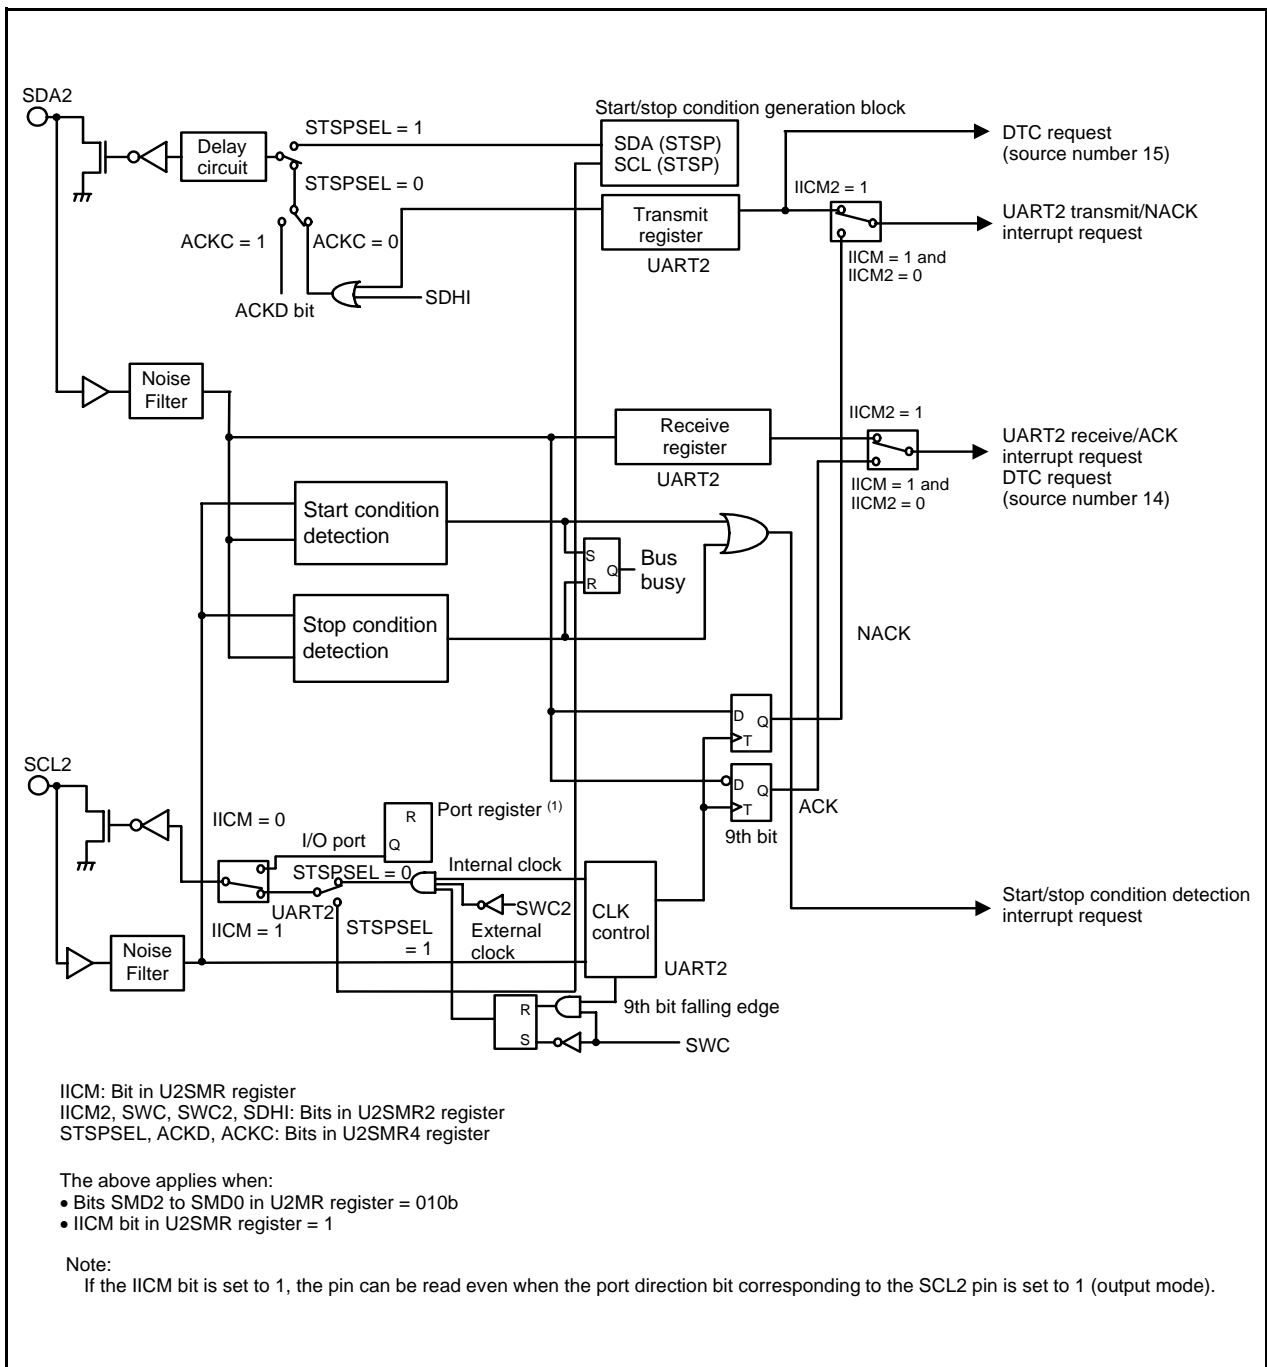
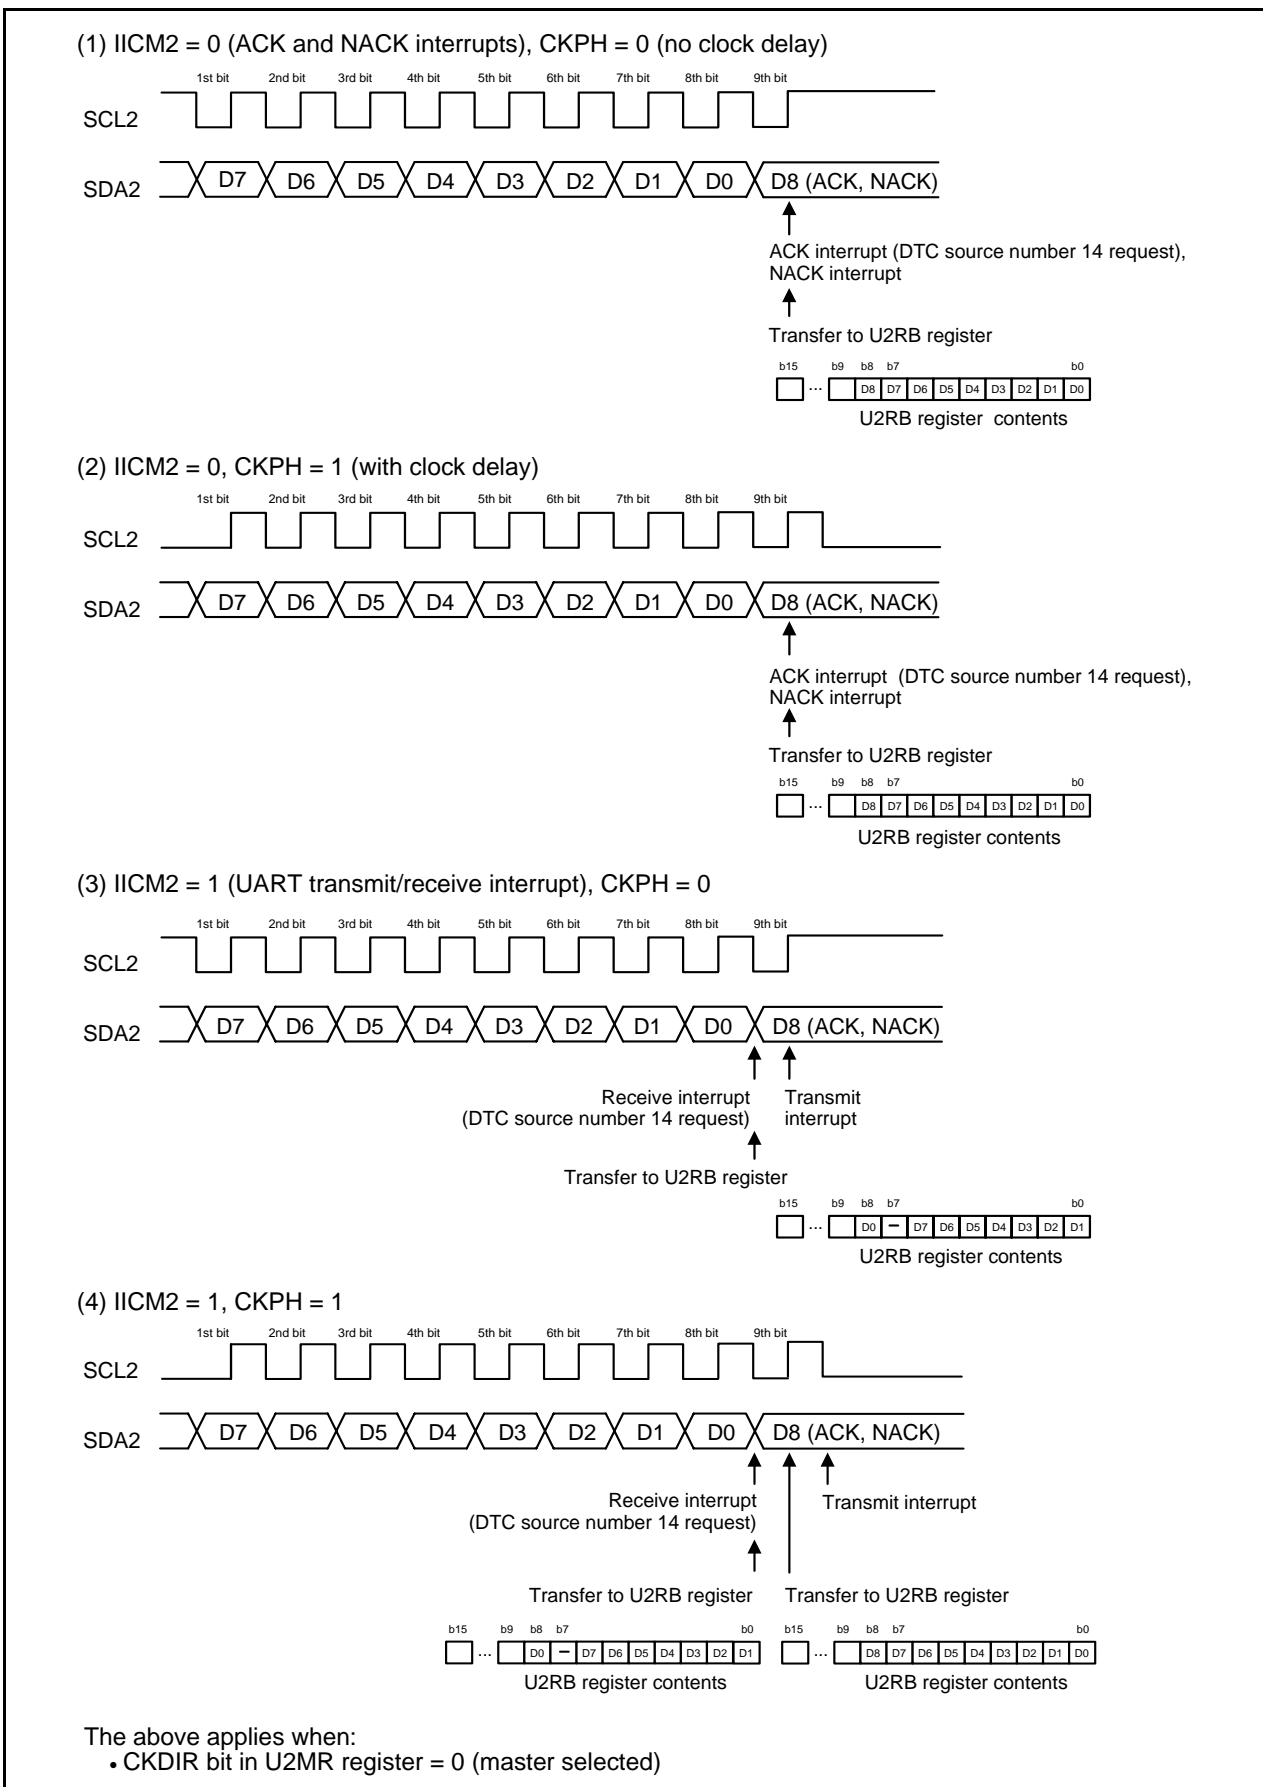

Figure 25.13 I2C Mode Block Diagram
Figure 25.14 Transfer to U2RB Register and Interrupt Timing
I²C mode is provided for use as a simplified I²C interface compatible mode. Table 25.9 lists the I²C Mode Specifications. Tables 25.10 and 25.11 list the registers used in I²C mode and the settings. Table 25.12 lists the I²C Mode Functions, Figure 25.13 shows an I²C Mode Block Diagram, and Figure 25.14 shows the Transfer to U2RB Register and Interrupt Timing.
- Refer to **Figure 25.14 Transfer to U2RB Register and Interrupt Timing**.
The transfer clock is used to transmit and receive data as is shown in **Figure 25.14 Transfer to U2RB Register and Interrupt Timing**.